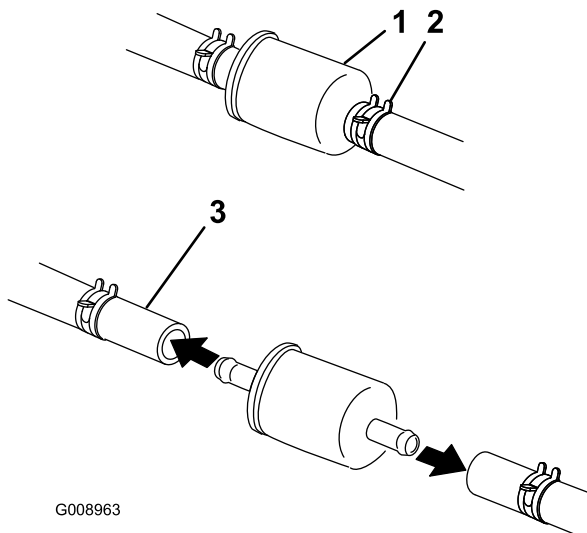

Figure 51
5. Close the fuel shutoff valve under the seat (Figure 51).
6. Squeeze the ends of the hose clamps together and slide them away from the filter (Figure 51).
8. Install a new filter and move the hose clamps close to the filter (Figure 51).